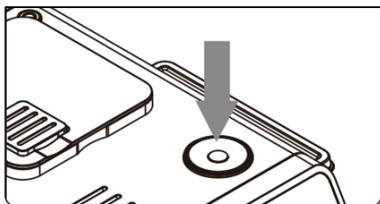

Fig. 2
- ⇒ Touch screen display (1).
- ⇒ Controller (11), located on the top panel of the coffee machine (Fig. 2).